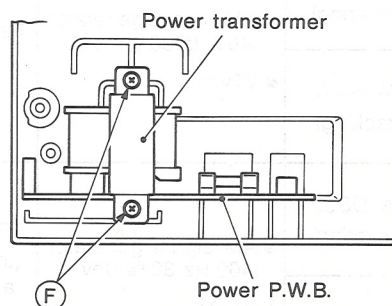

Fig. 5
7. Power P.W.B. Removal (Fig. 5)